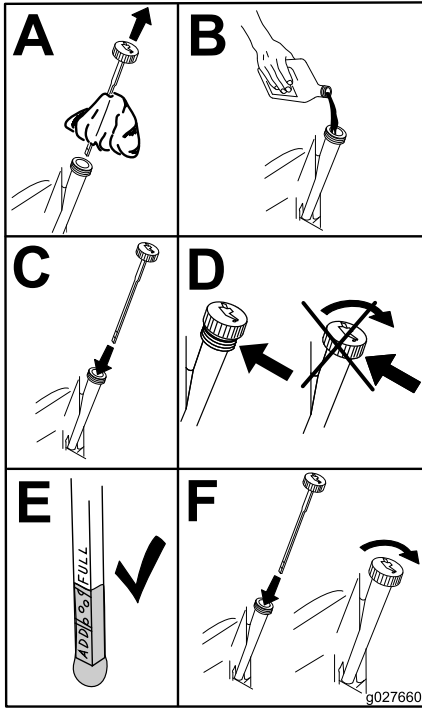

Figure 49
- Slowly pour approximately 80% of the specified oil into the filler tube and slowly add the additional oil to bring it to the FULL mark (Figure 49).